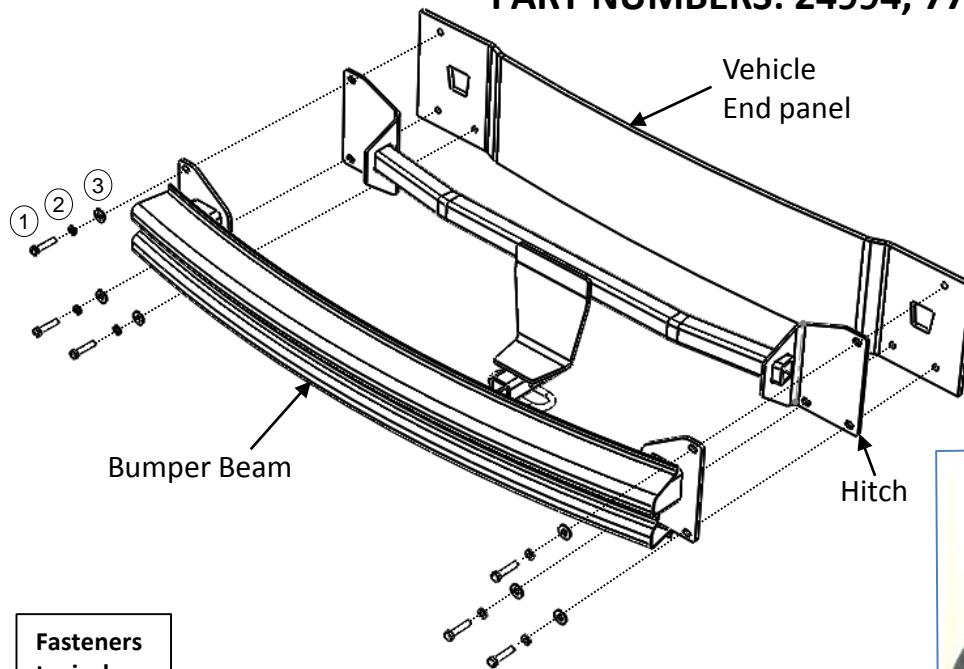

Figure 1
- 2. Remove taillights** – Using a T25 torxbit, remove (2) screws behind the panel, both sides. Remove taillights by gently pulling rearward and unclipping wiring harness.
- 3. Loosen wheel well liner** – Using a T25 torxbit remove (1) vertical screw from the bottom of wheel well liner, (3) horizontal screws from the side wheel well liner, and (1) vertical screw in the upper edge behind wheel well liner, both sides.
- 4. Loosen lower fascia** – Using a T15 torxbit, remove (3) rivets from bottom lower fascia.
- 6. Remove bumper beam** – Using 13 mm socket, remove (6) M8 factory bolts from bumper beam, (3) per side, return to vehicle owner, see figure 1. Remove bumper beam and foam cover on the top of bumper beam. Return foam cover to vehicle owner.
- 8. Install hitch** – Using hammer, flatten hook tabs behind bumper plates. Align bumper beam with hitch on the floor. Raise the hitch and bumper beam into position aligning holes on the end panel. Loosely install (6) M8 bolts ①, (6) 5/16" lock and flat washers ②③ to the bumper beam and hitch, see Figure 1.
3. Loosen wheel well liner – Using a T25 torxbit remove (1) vertical screw from the bottom of wheel well liner, (3) horizontal screws from the side wheel well liner, and (1) vertical screw in the upper edge behind wheel well liner, both sides.
4. Loosen lower fascia – Using a T15 torxbit, remove (3) rivets from bottom lower fascia.
6. Remove bumper beam – Using 13 mm socket, remove (6) M8 factory bolts from bumper beam, (3) per side, return to vehicle owner, see figure 1. Remove bumper beam and foam cover on the top of bumper beam. Return foam cover to vehicle owner.
8. Install hitch – Using hammer, flatten hook tabs behind bumper plates. Align bumper beam with hitch on the floor. Raise the hitch and bumper beam into position aligning holes on the end panel. Loosely install (6) M8 bolts ①, (6) 5/16" lock and flat washers ② ③ to the bumper beam and hitch, see Figure 1.